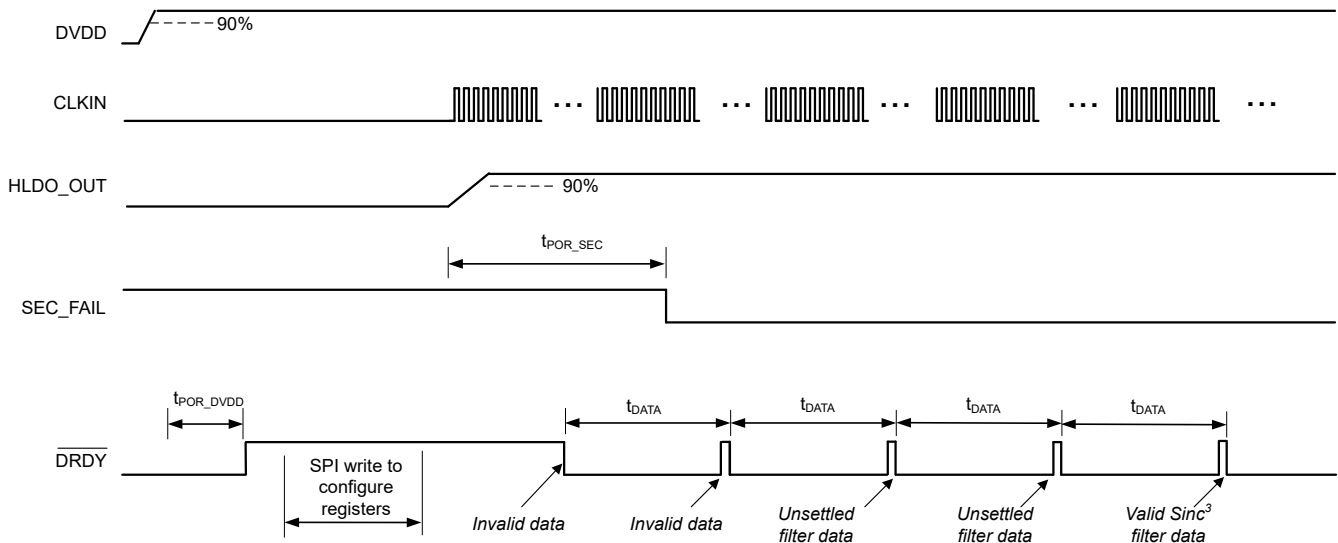
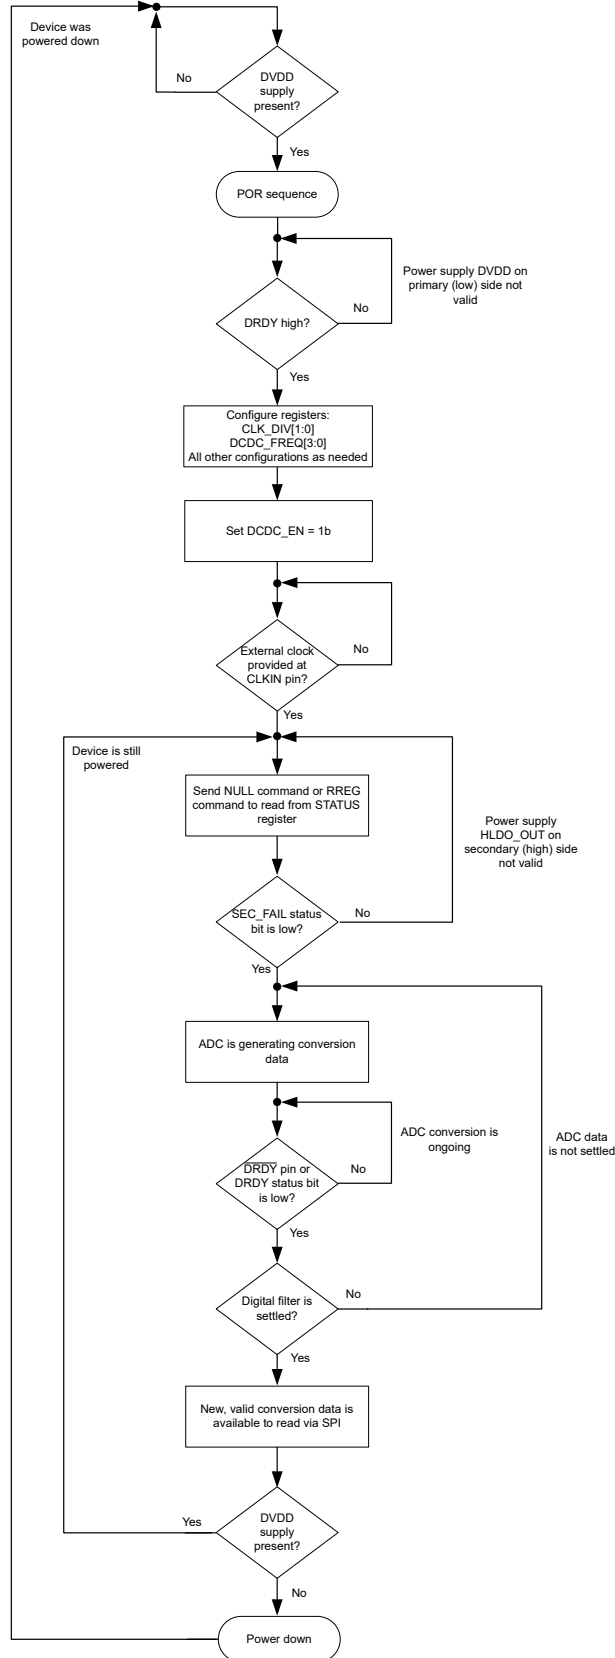

Figure 8-16. Start-Up Behavior at Power-Up and Settling Times, OSR = 1024
Figure 8-17. Flow Diagram for Start-Up Procedure at Power-Up
A recommended procedure for powering up the AMC131M02 is described in this section. Figure 8-16 depicts a timing diagram for the device behavior when this recommended sequence is used. Figure 8-17 provides a flow diagram that displays the recommended sequence in a graphical form.
- The high-to-low transition of $\overline{\text{DRDY}}$ indicates that new conversion data are available. As given in Figure 8-16, ADC data are only valid if the SEC_FAIL reads 0b during the conversion period. The first two conversion results shown in Figure 8-16, represent invalid data.
- When the ADC generates valid data, the digital filter must settle, as described in the SINC³ and SINC³ + SINC¹ Filter section. Two subsequent conversion results illustrated in Figure 8-16 are unsettled (assuming OSR equals 1024), and the last conversion result shown provides valid and settled data.
In Figure 8-16, $t_{\text{POR_SEC}}$ is the time from enabling the DC/DC converter to the first falling edge of the SEC_FAIL bit, which indicates that the secondary power supply at the HLDO_OUT pin is stable. $t_{\text{POR_DVDD}}$ is the time from DVDD supply at 90% to $\overline{\text{DRDY}}$ first rising edge.